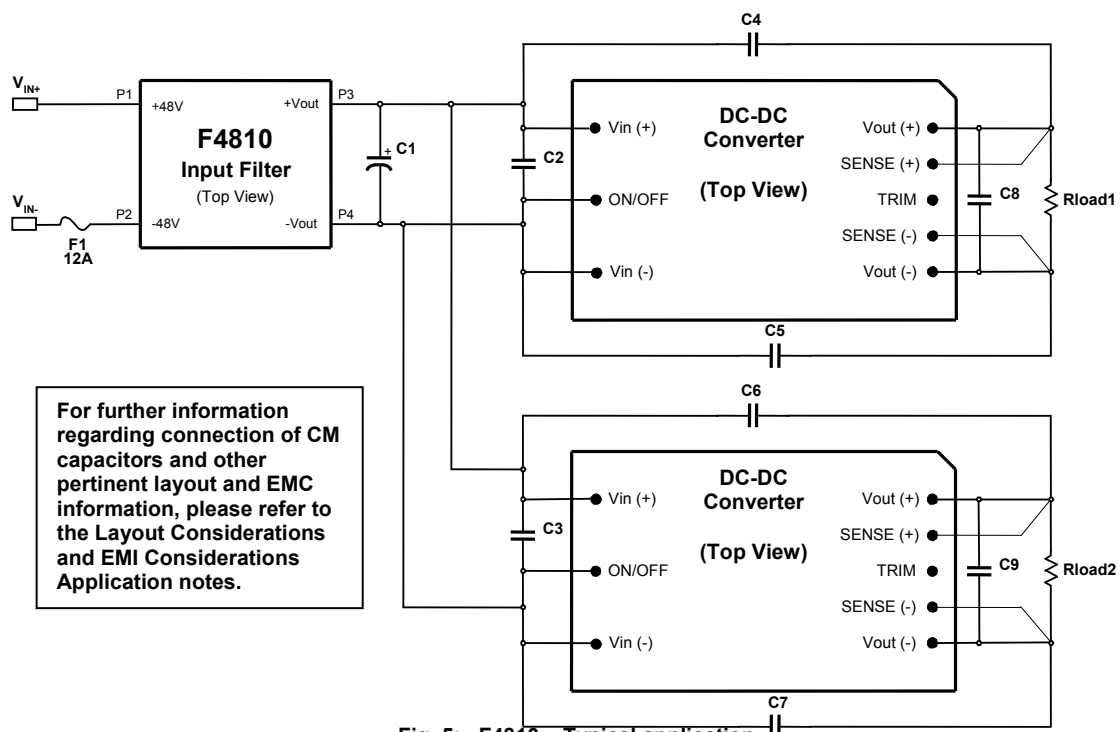

Fig. 5: F4810 – Typical application
A typical application schematic is shown in Fig. 5. Either filter can be used to power one or more converters. Maximum filter output current should be limited 10 A - or less - depending upon system thermal environment.
The following bulleted items are considerations regarding the external components for the typical application shown in Fig. 5.
- Common-mode capacitor (Y-cap) values and their EMI attenuation effects depend on system grounding and layout (they are not shown on Fig. 5). In EMI testing with the filter, ceramic capacitors between input and output of the converter (C4 – C7) were very helpful. Typical values for the capacitor between Vin- and Vout- are 3,300 pF – 5,100 pF, and for the capacitor between Vin+ and Vout+, 0 to 3,300 pF.